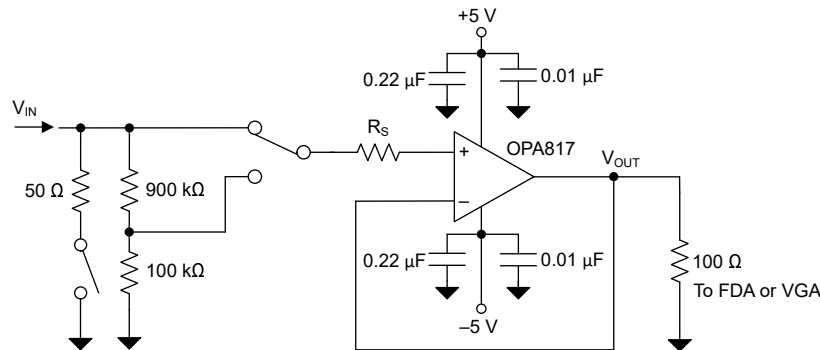
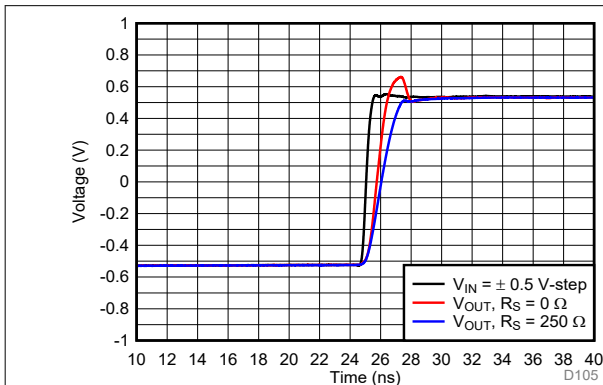
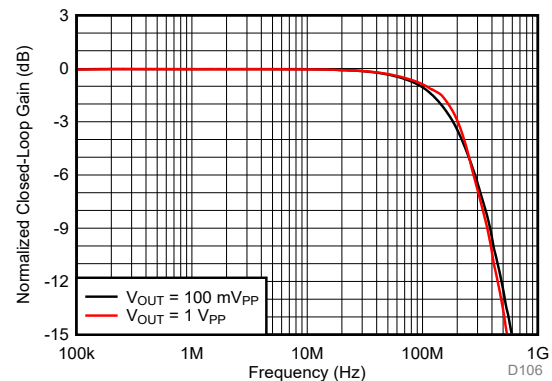

Figure 9-3. High Input Impedance, 200 MHz, Digitizer Front-End Amplifier
Figure 9-4. Step Response of Digitizer Front-End
Figure 9-5. Frequency Response for $R_S = 250 \Omega$
- Optimizing Overshoot:** The OPA817 features an internal slew-boost circuit to deliver fast rise-time in applications needing high slew rates such as when configured as a transimpedance amplifier. For applications where overshoot needs to be limited, the input slew rates can be limited with introducing a series resistance (R_S) as shown in Figure 9-3. The resistance R_S forms a low pass filter with the input capacitance of approximately 2.6 pF at the noninverting pin of the OPA817 limiting the input slew rate to the amplifier. Figure 9-4 shows how limiting the input slew rate to the amplifier results in good overshoot performance, and Figure 9-5 shows how this achieves a small signal and large signal bandwidth of 200 MHz.